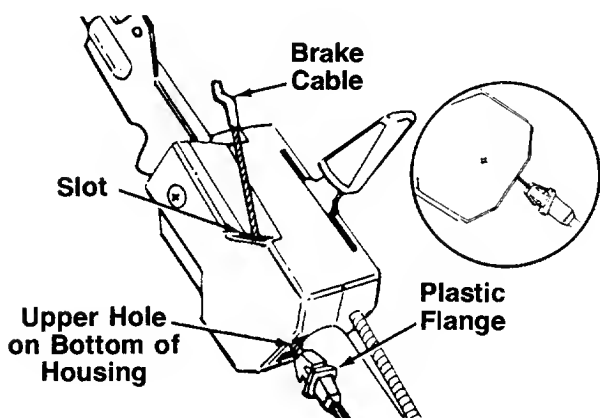

FIGURE 4.
1. The brake cable is attached to the engine, and has a "Z" fitting on the loose end. Route the brake cable to the outside of the height adjustment handle and handle mounting bracket, and below the lower handle. Place end of cable into the upper hole on the bottom of the control housing, and through the slot as shown. The angle of the plastic flange must be positioned downward as shown in figure 4. Be careful not to bend or kink the cable at any time.